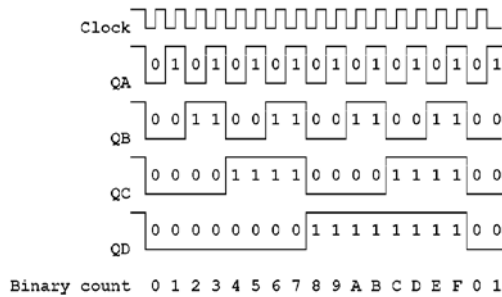

Figure 2.4. Expected waveforms for a mod-16 counter.
Figure 2.4 shows the timing relationships between the counter outputs. The count values are shown at the bottom of the figure; each one represents the binary pattern in the corresponding vertical slice read from the bottom up; i.e. from QD up to QA. For example, count 7 corresponds to QD, QC, QB, QA = 0 1 1 1.
In this section, you will display the waveforms of Figure 2.4 two at a time on an oscilloscope.
Verify that the timing relationship between QD and QC is as in Figure 2.4.
- draw the waveforms you observe on the oscilloscope. As done in Figures 2.4 and 2.5, stack the waveforms for QA, QB, QC, and QD (even though you can only observe two at a time), and